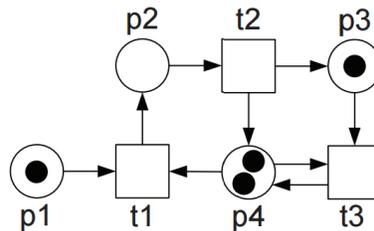

Figure 1: A Petri net.
- Map the labeled Petri net in Figure 1 onto $N = (P, T, F)$.
- Give the current marking M of the Petri net in Figure 1.